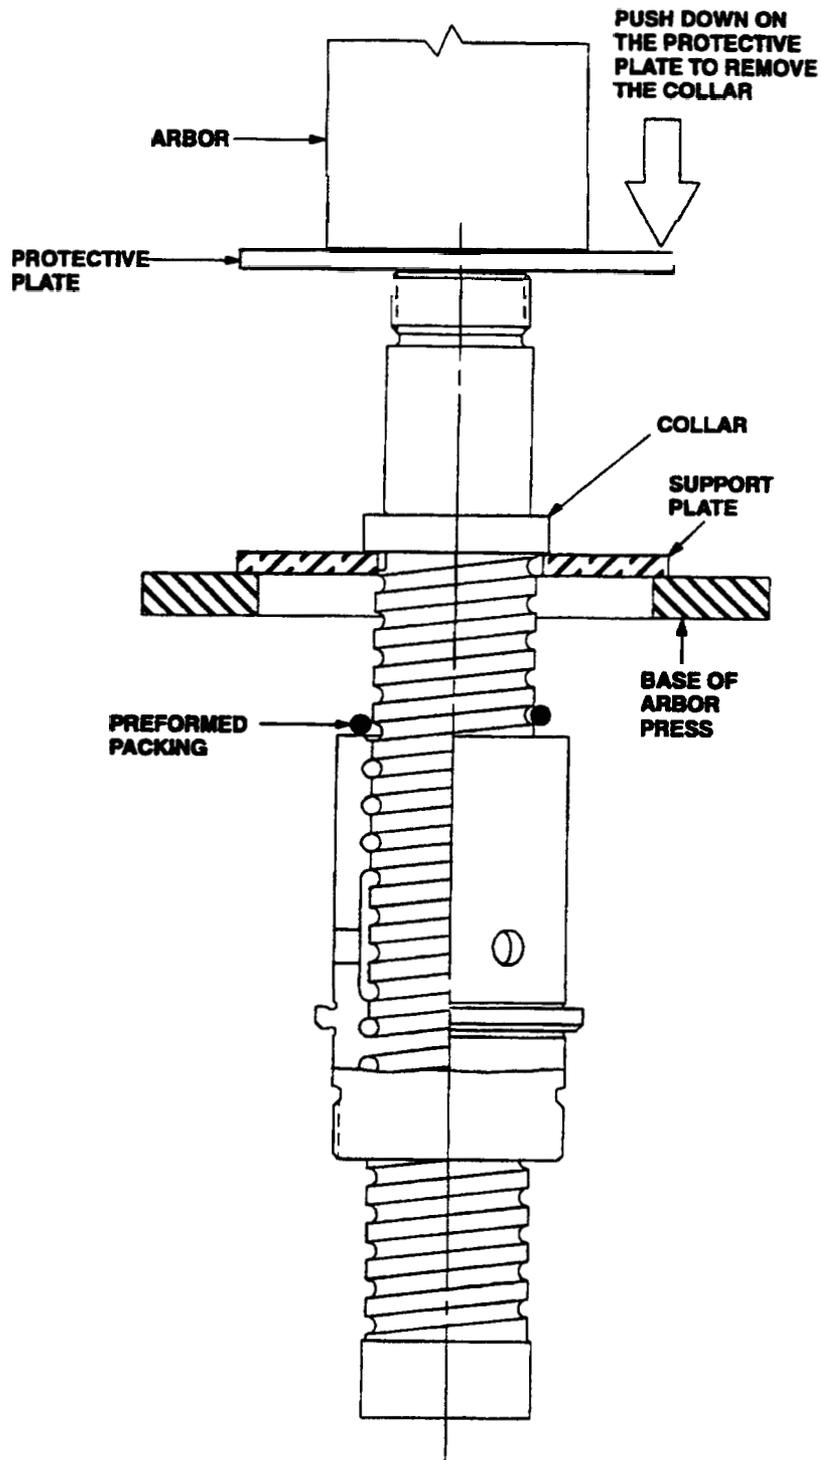

Figure 2. Remove the Collar from the Servo Ballscrew (Arbor Press Method Shown)
- a Put a support plate made of nonferrous material, such as aluminum, below the collar as shown in Figure 2.